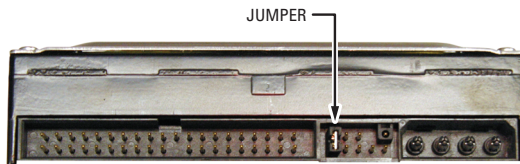

Figure 7. Jumper Placement
8. Verify that the jumper on the replacement hard drive is set for master. Refer to Figure 7.